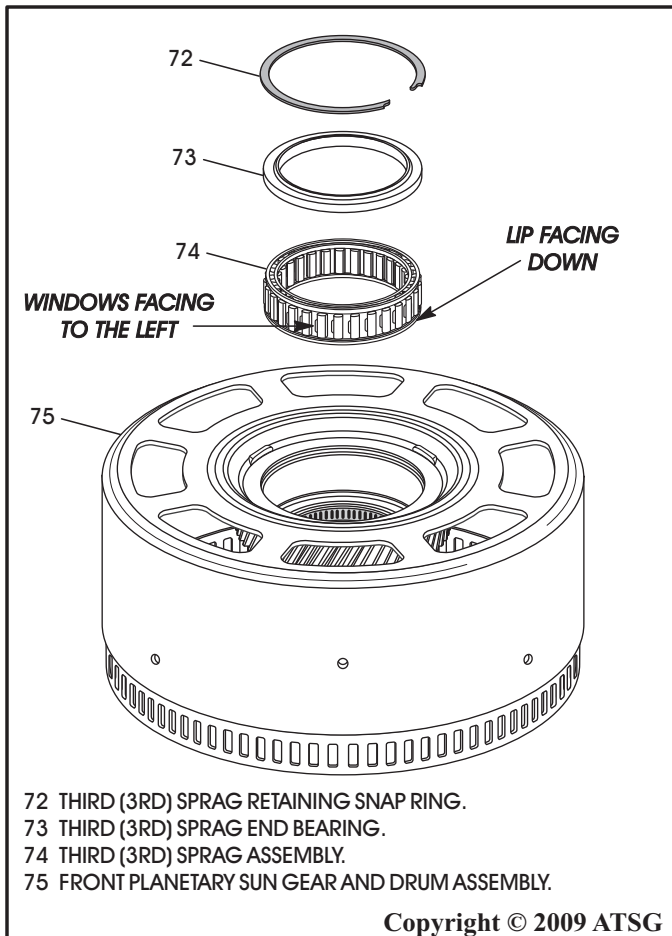

Figure 107
4. Install the 3rd sprag into the sun gear and drum assembly, with the "lip" facing down and the "windows" facing to the left, as shown in Figure 107.
5. Install the 3rd sprag end bearing on top of the 3rd sprag assembly, as shown in Figure 107.
6. Install 3rd sprag retaining snap ring, as shown in Figure 107, and ensure it is fully seated.